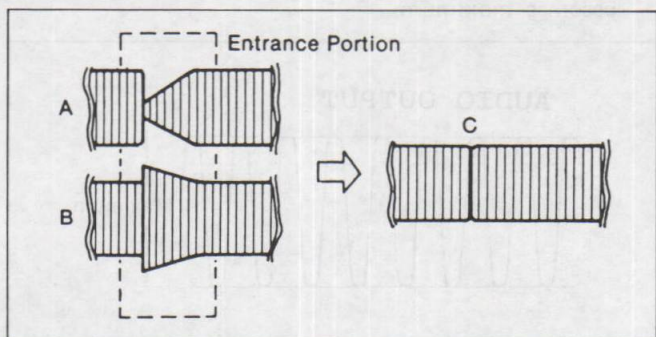

Fig. M22
3. If the RF envelope appears like example "A" or "B" in Fig. M22 then adjustment of the tape guide post (P2 : Entrance) is necessary.
4. Adjust the tape guide post (P2) with the post adjustment screwdriver so that the RF envelope waveform at the entrance portion becomes flat as shown in Fig. M22-"C".